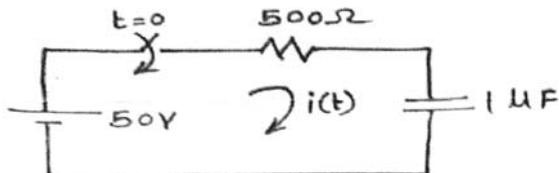

Fig. 1
b) In the network shown in Fig. 1, switch is closed at $t = 0$. Before closing the switch capacitor was in uncharged state. Find the values of